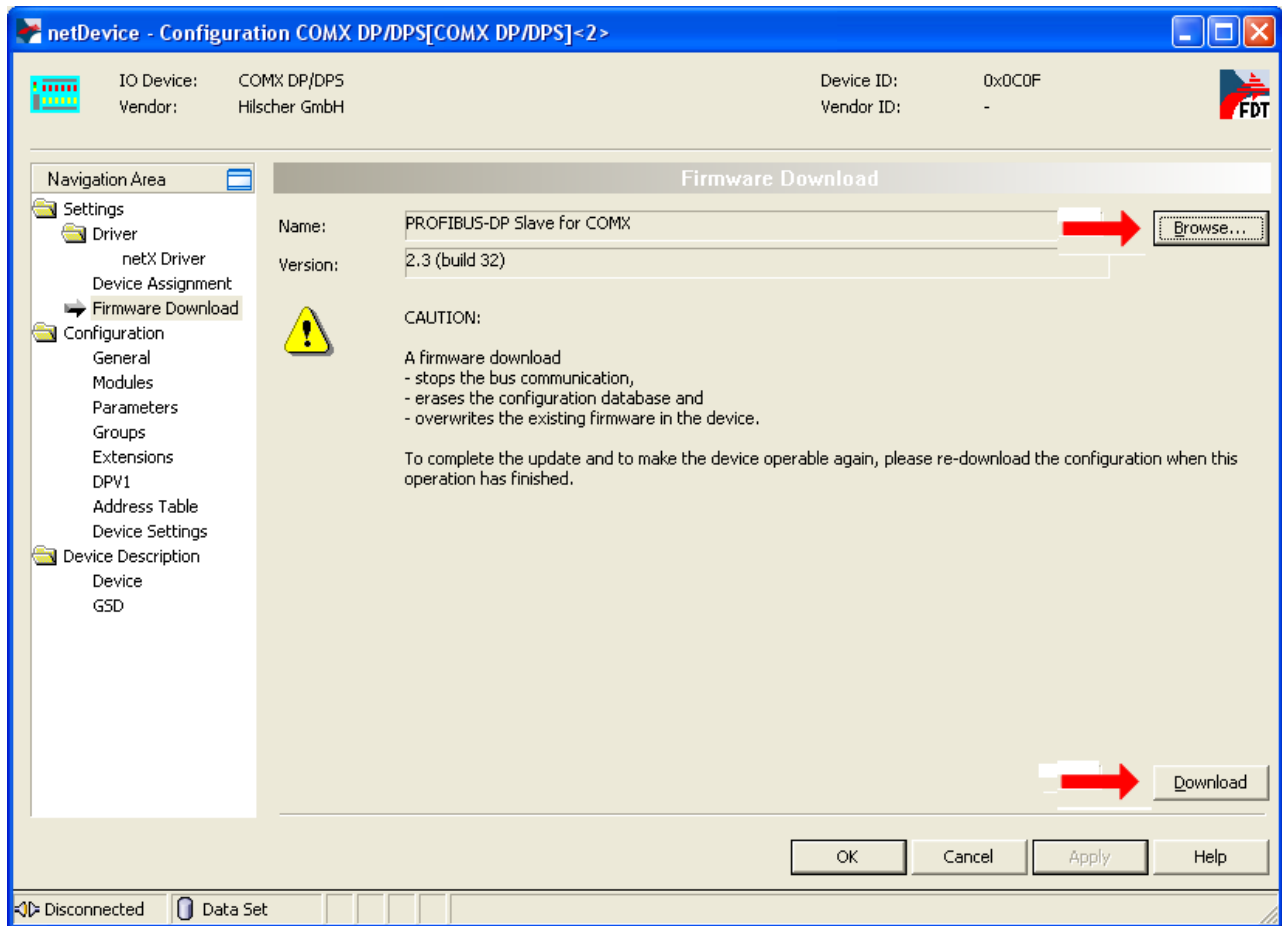

Figure 51: Firmware Download with SYCON.net (after Selection of the Firmware)
- Open a file selection dialog by clicking at the button „Select“ (Figure 51: Firmware Download with SYCON.net (after Selection of the Firmware), see ① right at the top).
- In order to start the firmware update process, click at „Load“ (Figure 51: Firmware Download with SYCON.net (after Selection of the Firmware) see ②).